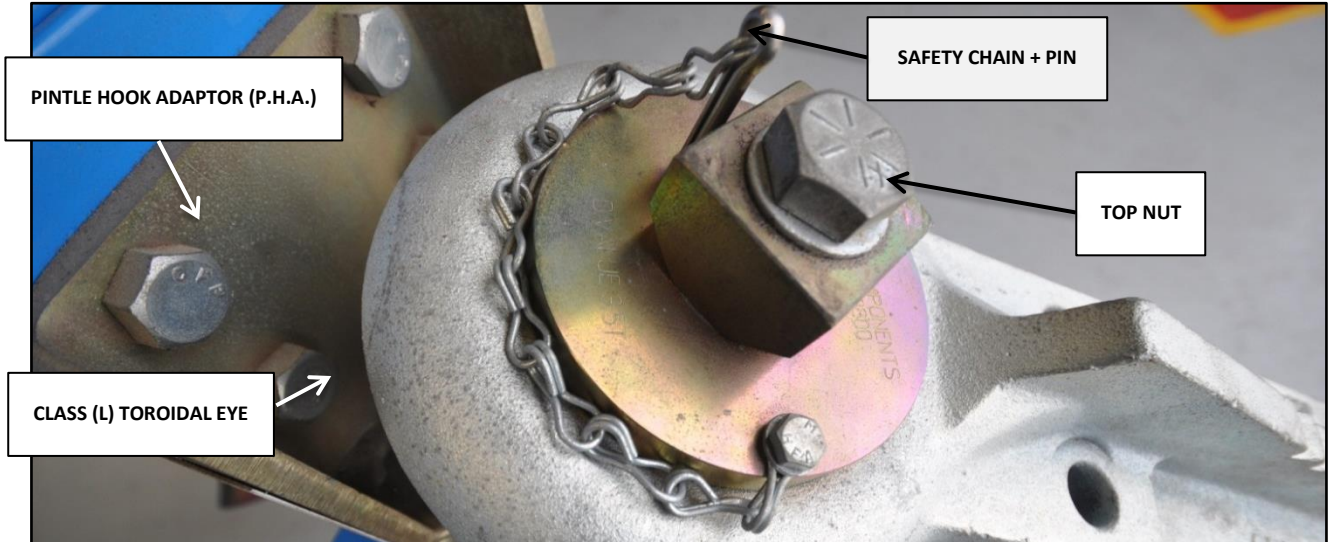

FIGURE 1: P.H.A. D-Value 3.5t (34.3kN)	FIGURE 2: TOW BAR TONGUE RATING 3.5t MAX
- D-Rating of 3.5t applies only when fitted to the pintle hook adaptor see (FIGURE 1) - PART NO. 18F XVC017